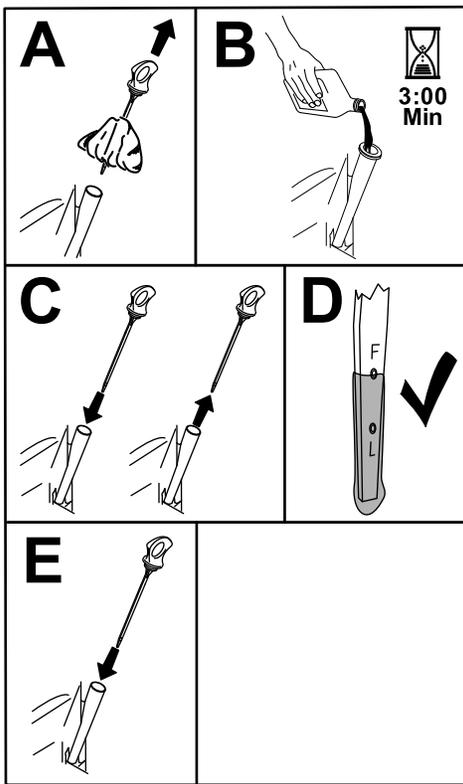

Figure 39
5. Slowly pour approximately 80% of the specified oil into the filler tube and slowly add the additional oil to bring it to the Full mark (Figure 39).